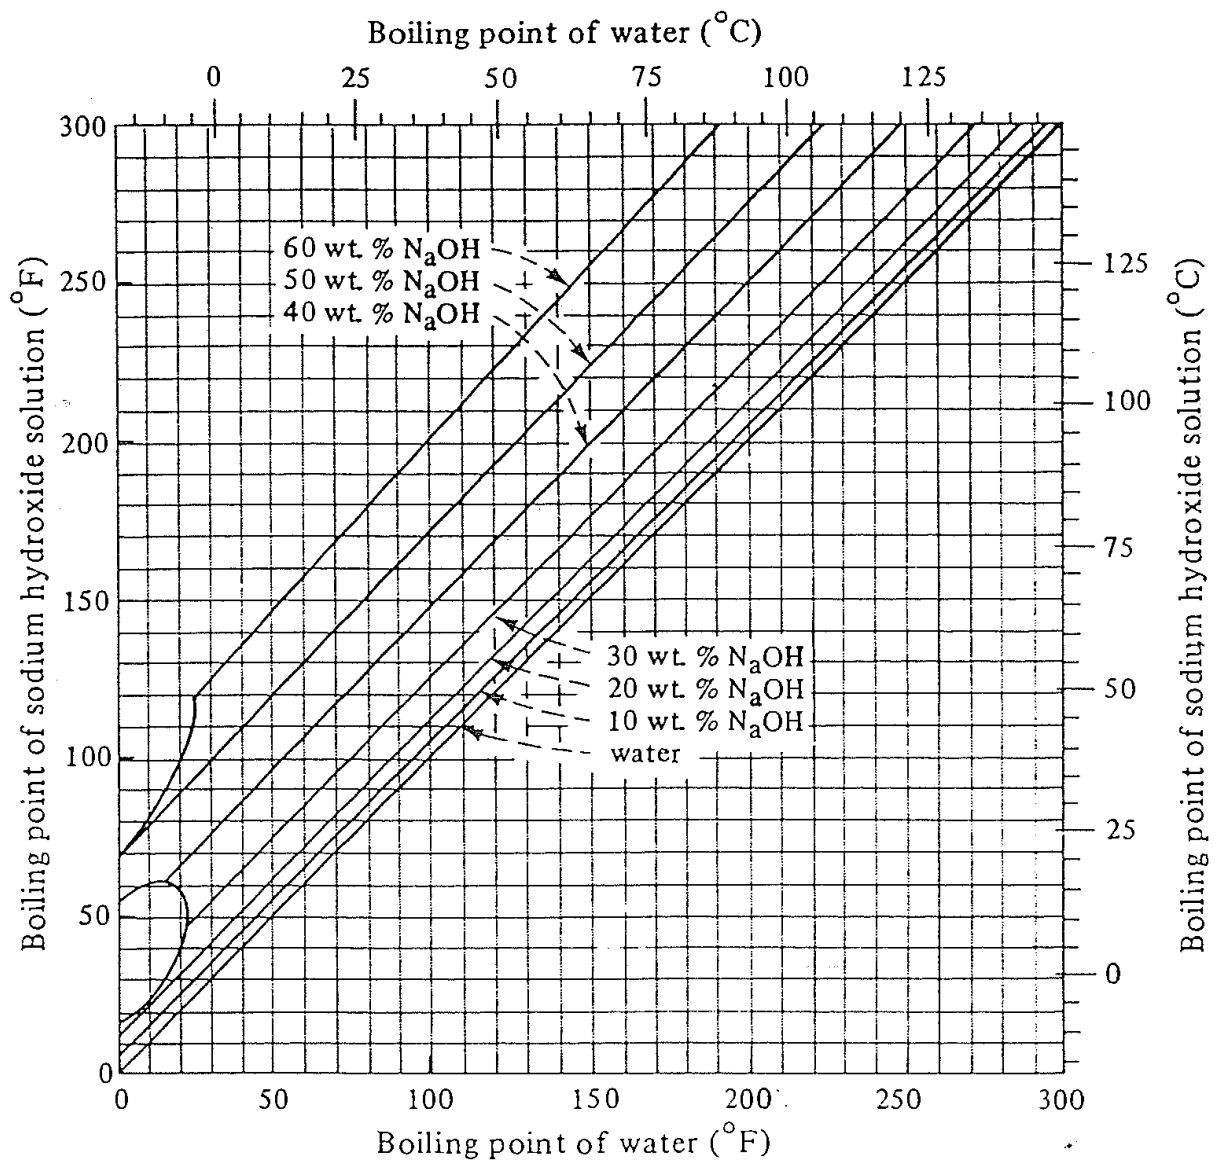

Figure 1: Dühring chart for NaOH-water solutions. This figure is needed for Q. 3.
- Calculate the boiling point rise and operating temperature of the evaporator. Why is it convenient to discuss a boiling point rise rather than an absolute temperature? A Dühring chart for NaOH-water mixtures is available in Fig. 1. [4 marks]